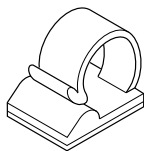

Figure 36 - Adhesive-backed Mounting Clip
2. The adhesive-backed mounting clip (see Figure 36) is attached to the thermostat sensing bulb. Remove the adhesive-backed mounting clip.